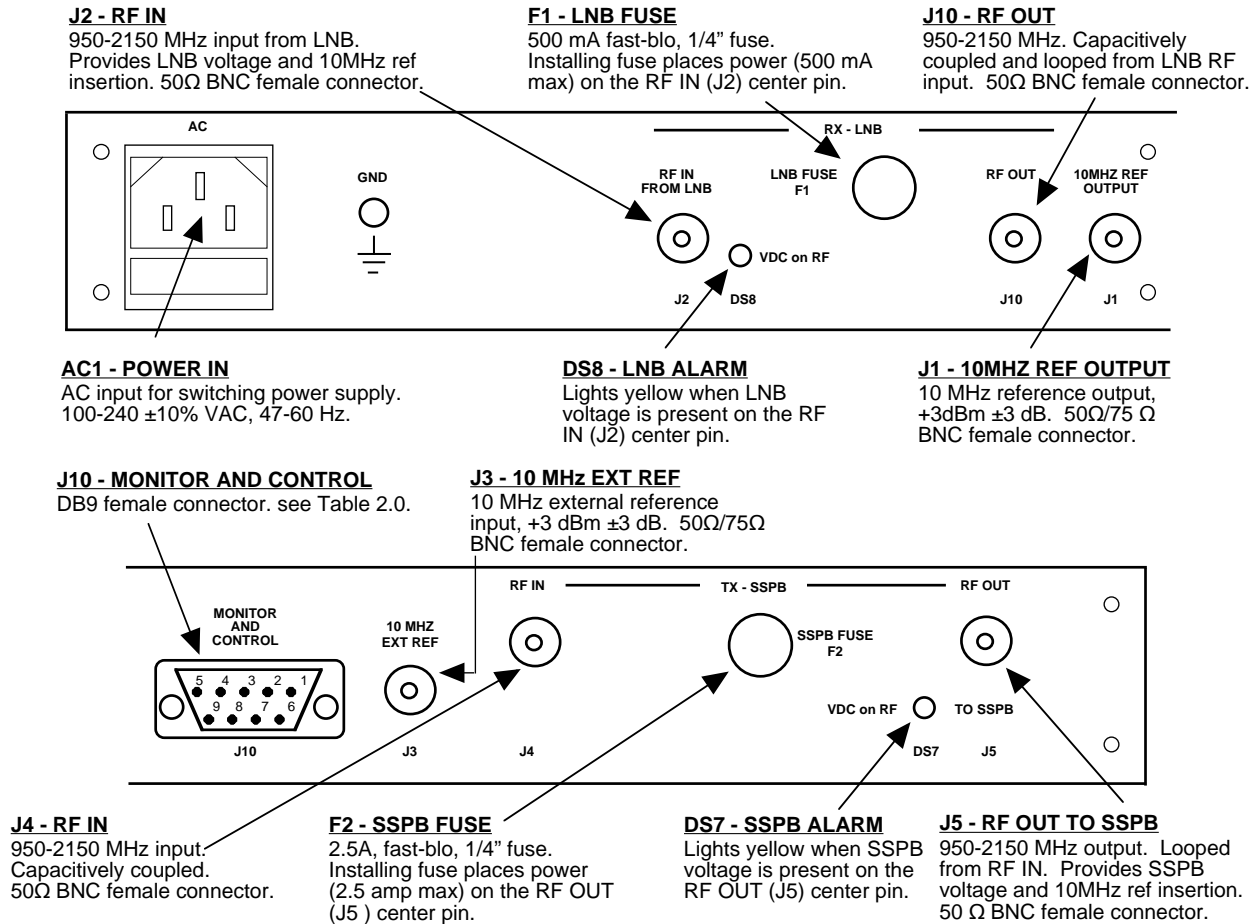

FIGURE 2.1 2099-17 Rear Panel Outputs
2.2 Rear Panel Output Signals - Figure 2.1 shows the input and output connectors on the rear panel.
1. Connect RF IN (FROM LNB), J2, to the LNB (Figure 2.1).
2. Connect RF OUT (TO SSPB), J5, to the SSPB (Figure 2.1).